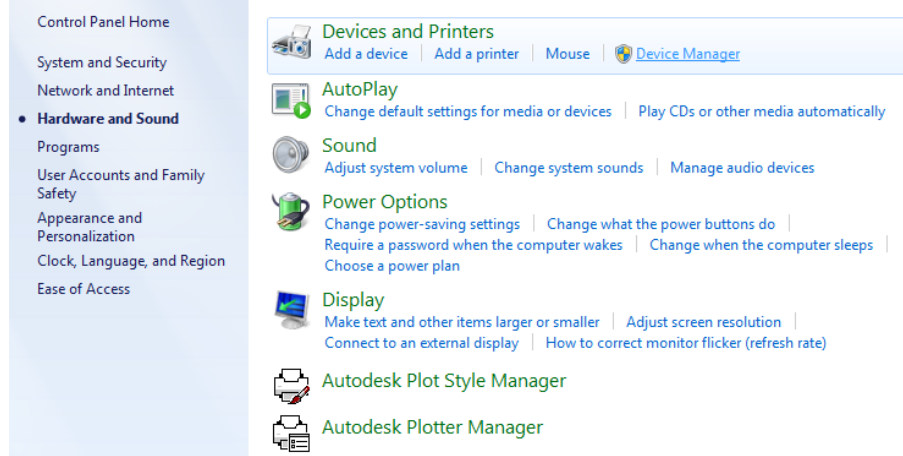

Fig. 2-25
- ◆ Double click the CDMuninstallerGUI.exe (The uninstaller program and the USB drivers are in the disk which is provided by us. You can copy the program to anywhere in your computer. As shows in Fig.2-25, the path is C:\USB Drivers\USB Virtual COM Port Drivers Uninstaller_v1.4\CDMUninstaller_v1.4.